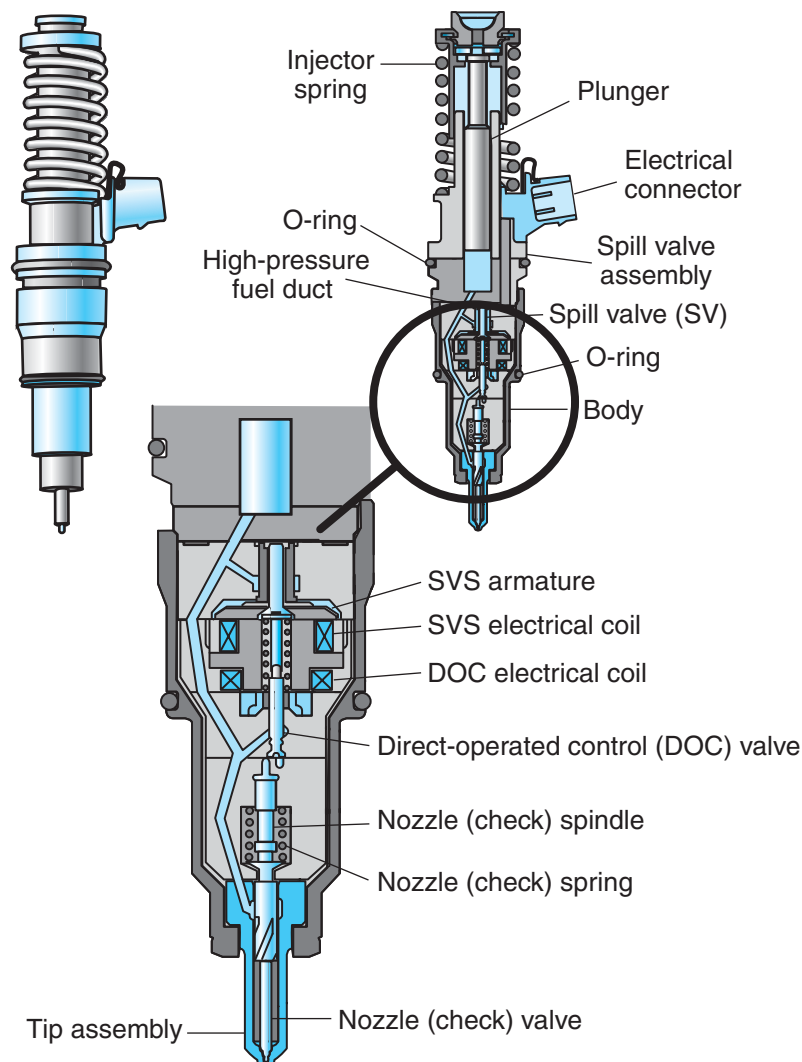

Figure 15-6 Dual actuator EUI terminology.
- Spill valve (SV) actuator: an ECM switched control cartridge identical to the control solenoid in a single actuator EUI; in other words, it opens and closes the spill circuit to manage EUI effective stroke.
- Nozzle control valve (NCV) actuator: this is built into the EUI body as shown in **Figure 15-6**. The NCV actuator is an electrohydraulic nozzle that allows soft NOP values. In other words, the pressure at the beginning of injection is controlled by the ECM.
Although they are a little more complicated, dual actuator EUIs weigh about one-half of an equivalent two-terminal EUI. In addition, the obstruction to the injector and valvetrains created by the external control solenoid cartridge has been reduced. **Figure 15-6** shows the terminology used to describe a dual actuator EUI. Use that figure to guide you through the following description of its operating principles.